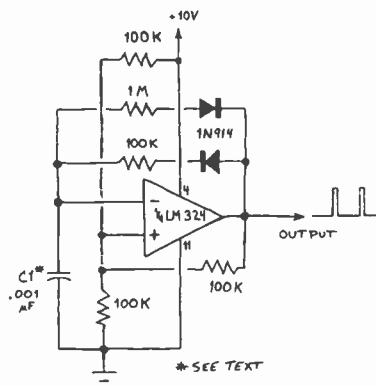
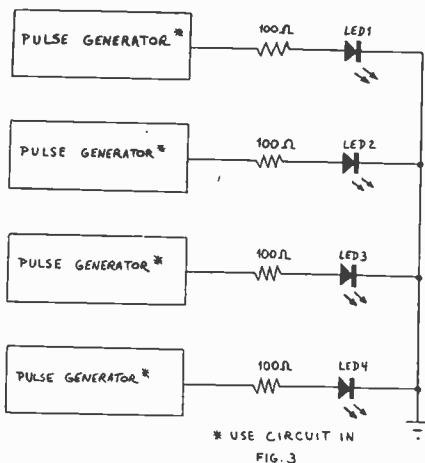

Fig. 3. Change C1 to vary pulses.
Fig. 5. Random LED flasher.
A somewhat more versatile pulse generator is shown in Fig. 3. The repetition rate of this circuit can be changed from one pulse every few minutes to 200 kHz by simply changing C1. Here's a table of pulse parameters I measured with the prototype circuit:
The conventional pulse generator of Fig. 3 can also be used to experiment with applications like these:
3. A LED "random" flasher. See Fig. 5 for this variation of the circuit. For best results, use different values for the capacitors (C1 in Fig. 3) to provide different flash rates. These values should range from about 0.2 to 1.0 μF so that the flashing will be discernable to the eye. Incidentally, you can house this circuit in a small plastic enclosure for permanent use as a novelty or attention-getting device.